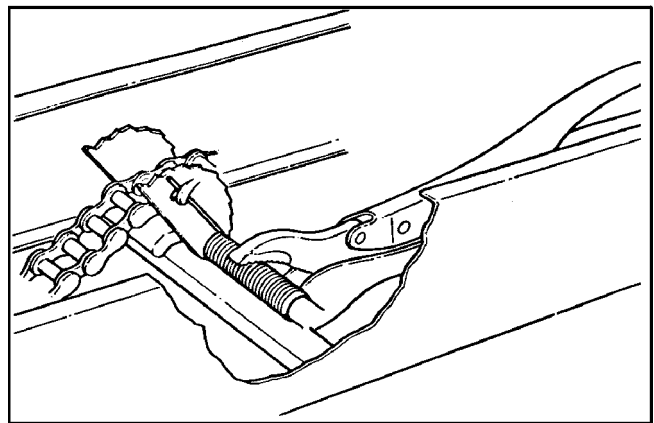

Figure 7-4. Securing tensioner cam
- Turn the tensioner cam assembly in the direction which winds up the torsion spring and push the assembly down as close as possible to the cam follower block in the bottom of the frame. Secure it in this position with a Vice-Grip 10CR as illustrated in Figure 7-4.